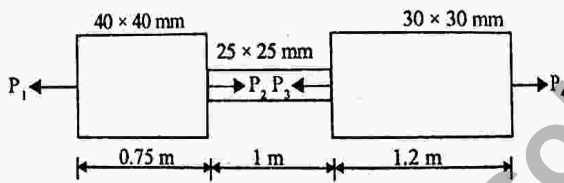

Fig. 1
- (b) A member ABCD is subjected to a point load,  $P_1$ ,  $P_2$ ,  $P_3$  and  $P_4$  as shown in fig. 1 calculate the force  $P_3$  necessary for equilibrium if  $P_1 = 120$  kN,  $P_2 = 220$  kN and  $P_4 = 160$  kN. Determine also the net change in the length of the member. 8